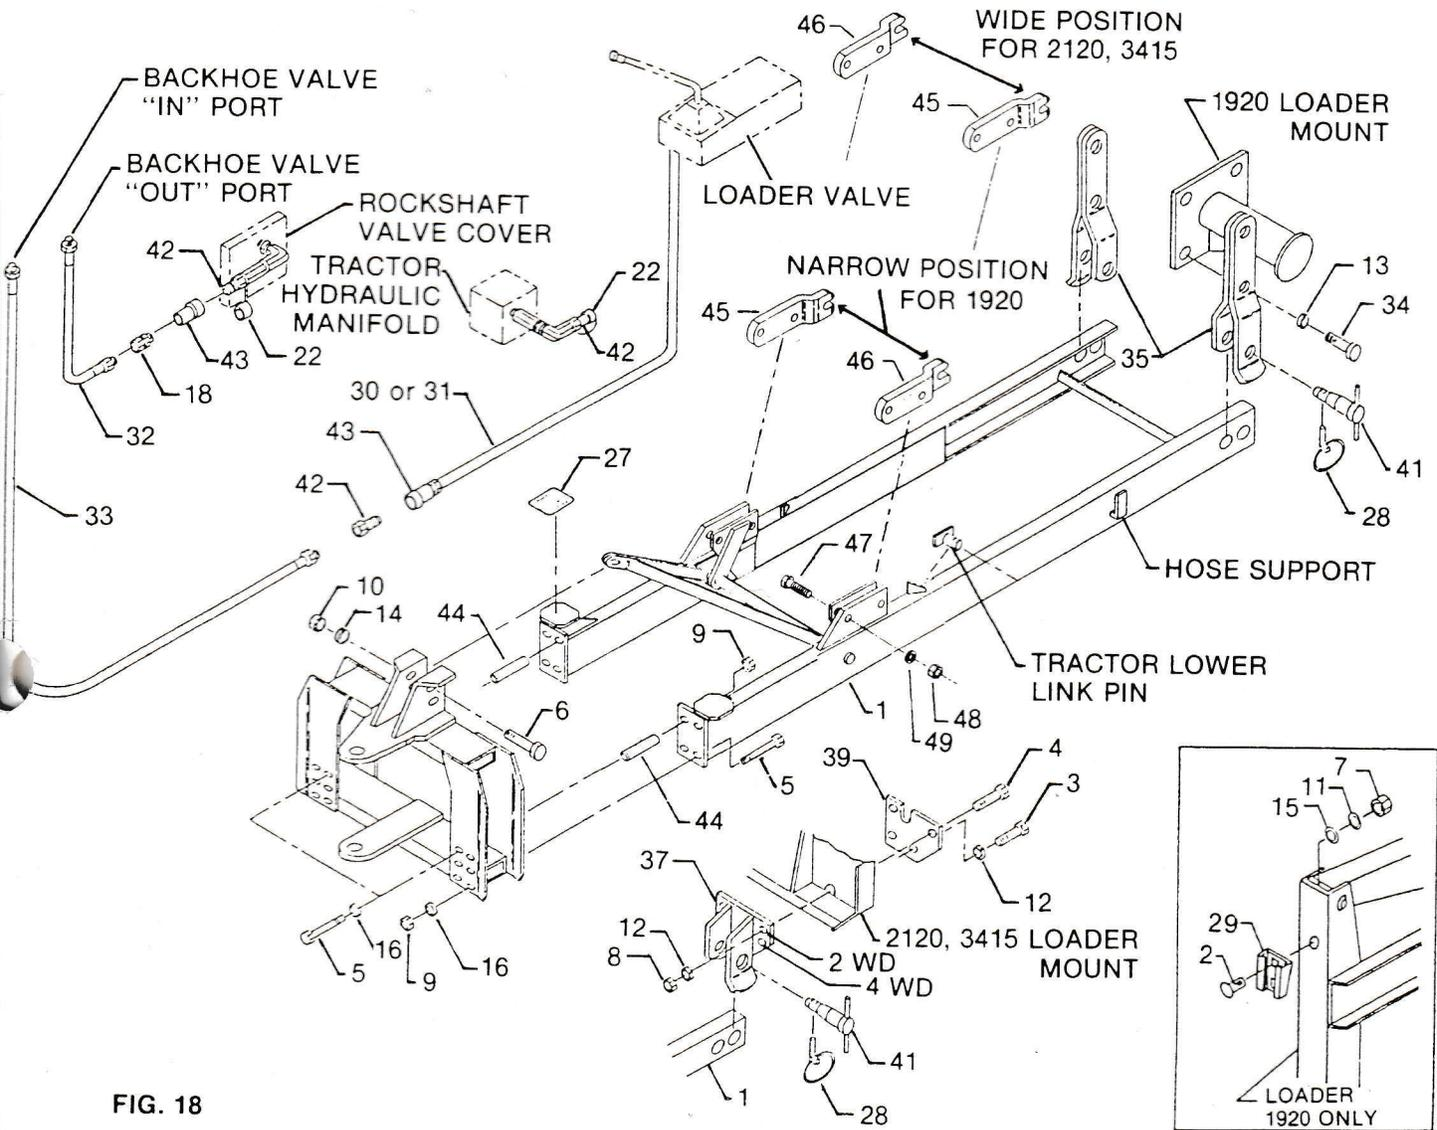

FIG. 18
5. Remove linch pins (28), and step pins (41) from front hangers, using rubber hammer if necessary, as shown in Fig. 18, and lower subframe away from front hangers by activating boom control lever to move boom down slightly.
8. Stop tractor engine and uncouple backhoe pressure hose (33) from hose (30 or 31), and uncouple return hose (32) from coupler at tractor rockshaft valve cover as shown in Fig. 18. Couple backhoe pressure and return hoses together to prevent entry of dirt.